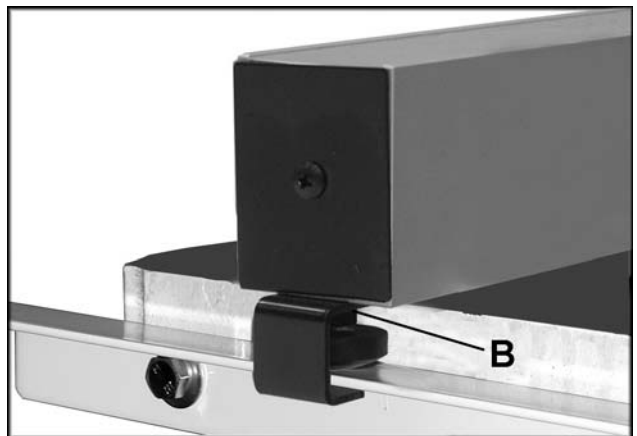

Fig. 5
6. Place fence assembly onto the guide rail. The rear hook should engage the rear rail and the pad will slide along the rear rail, Figure 5. Use nut (B, Fig. 5) to adjust height of pad.